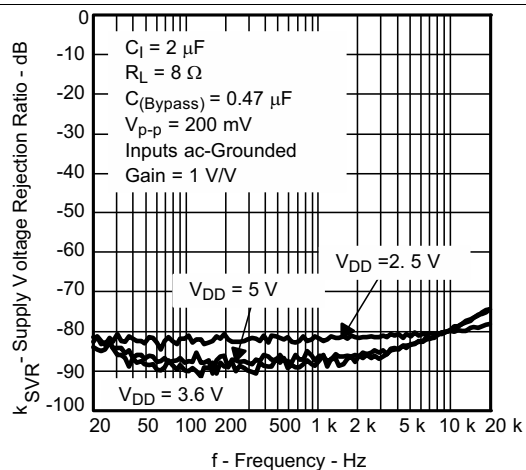
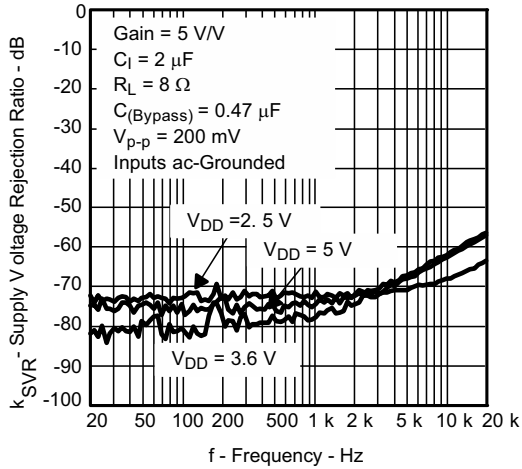
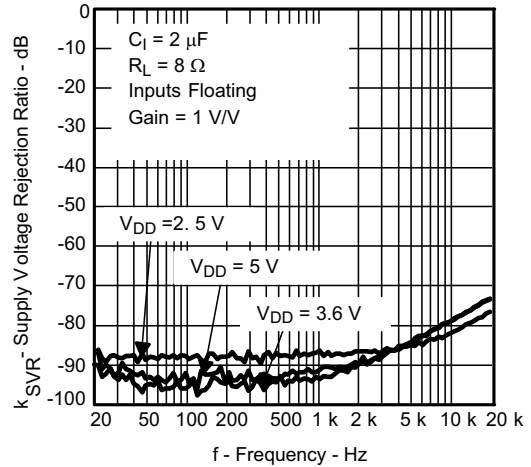
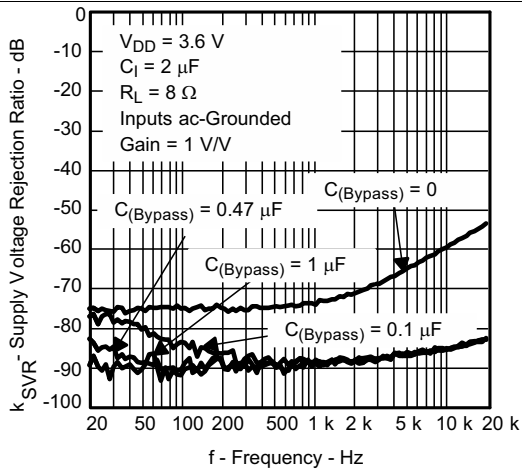

Figure 14. Supply Voltage Rejection Ratio vs Frequency
Figure 15. Supply Voltage Rejection Ratio vs Frequency
Figure 16. Supply Voltage Rejection Ratio vs Frequency
Figure 17. Supply Voltage Rejection Ratio vs Frequency
| Supply voltage rejection ratio | | vs Frequency | Figure 14, Figure 15, Figure 16, Figure 17 |
- **Mid-supply bypass capacitor, $C_{(BYPASS)}$, not required:** The fully differential amplifier does not require a bypass capacitor. This is because any shift in the mid-supply affects both positive and negative channels equally and cancels at the differential output. However, removing the bypass capacitor slightly worsens power supply rejection ratio (k_{SVR}), but a slight decrease of k_{SVR} may be acceptable when an additional component can be eliminated (see Figure 17).